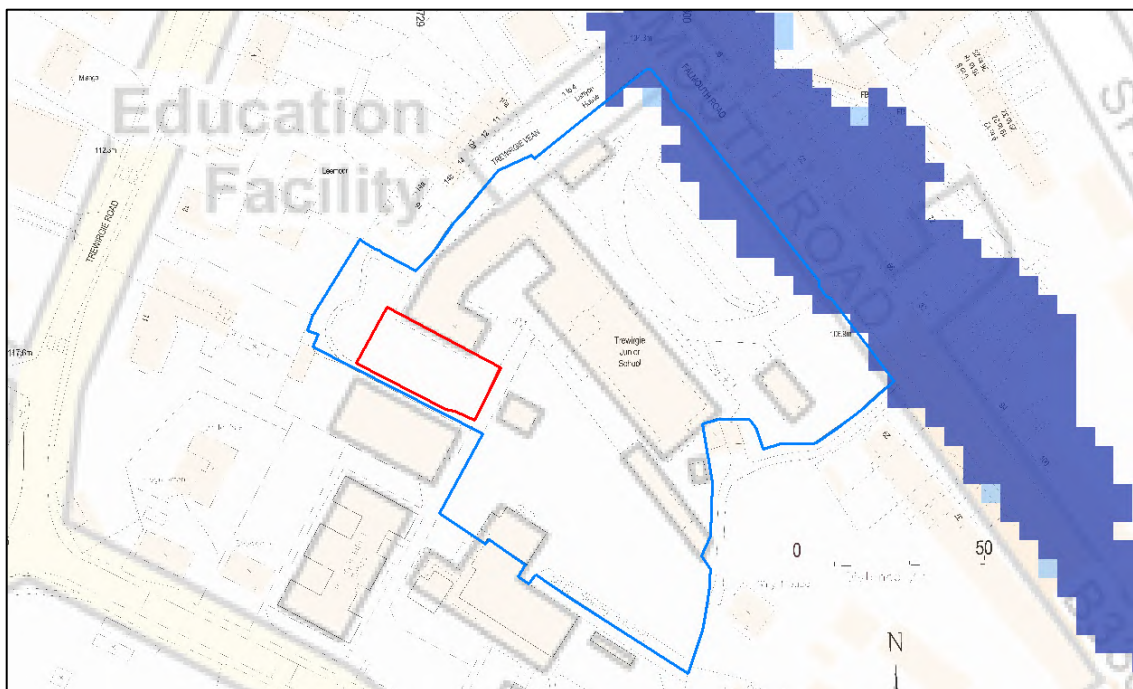

Figure 3: EA Flood Map for Planning. Dark blue indicates Flood Zone 3.
- 2.3 The EA Flood Map for Planning (Figure 3) indicates that the northeast boundary of the Trewirgie Junior School complex, fronting onto Falmouth Road, is in Flood Zone 3. However, the majority of the site, including the redline application boundary associated with the two new classrooms application, is in Flood Zone 1. The redline application boundary and proposed classroom block are located approximately 66m from Flood Zone 3. In addition, the proposed classroom block will be located on land approximately 8m above the topographic levels at the edge of Flood Zone 3.
- 4.1 As outlined in Figure 3, the proposed classroom block is to be located within Flood Zone 1 (Low Risk of flooding), and is considered to be 'More Vulnerable' under the NPPF. Communication with the Environment Agency (EA) has identified the following potential sources of flooding to the site:
- 5.1 The EA Flood Map for Planning (Figure 3) indicates that the northeast boundary of the Trewirgie Junior School complex, fronting onto Falmouth Road, is in Flood Zone 3. However, the majority of the site, including the redline application boundary associated with the new classrooms application, is in Flood Zone 1.